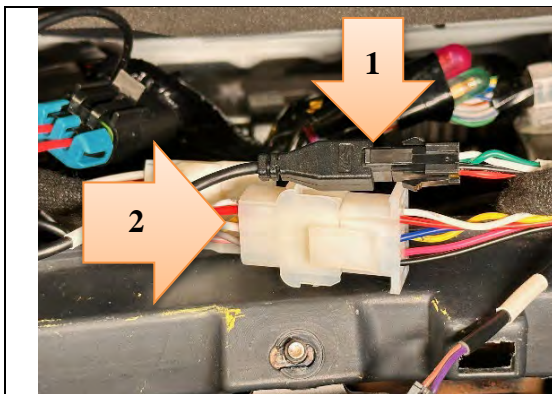
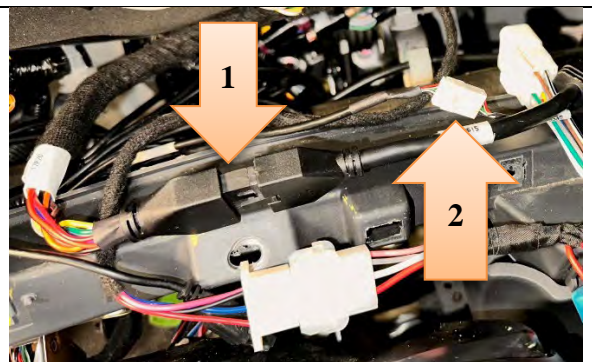

Figure 55
Figure 56
59. Disconnect the camera cable. **For Mobileye 6**, connector MH-2 and the EyeWatch connector MB-3. (See Figure 55.) **For Mobileye 8**, 14 pin (Black) connector and optional GPS connector. (See Figure 56.)